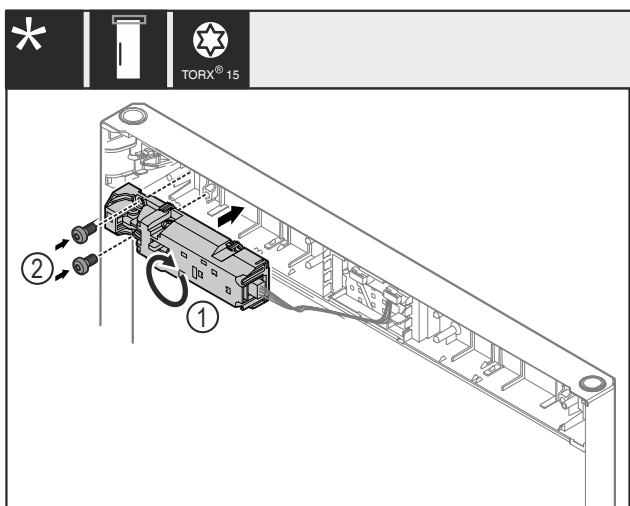

Fig. 24
- ▶ Turn the remote lock Fig. 24 (1) by 180° and attach on the opposite side.
- ▶ Fasten the remote lock Fig. 24 (1) with screws Fig. 24 (2).